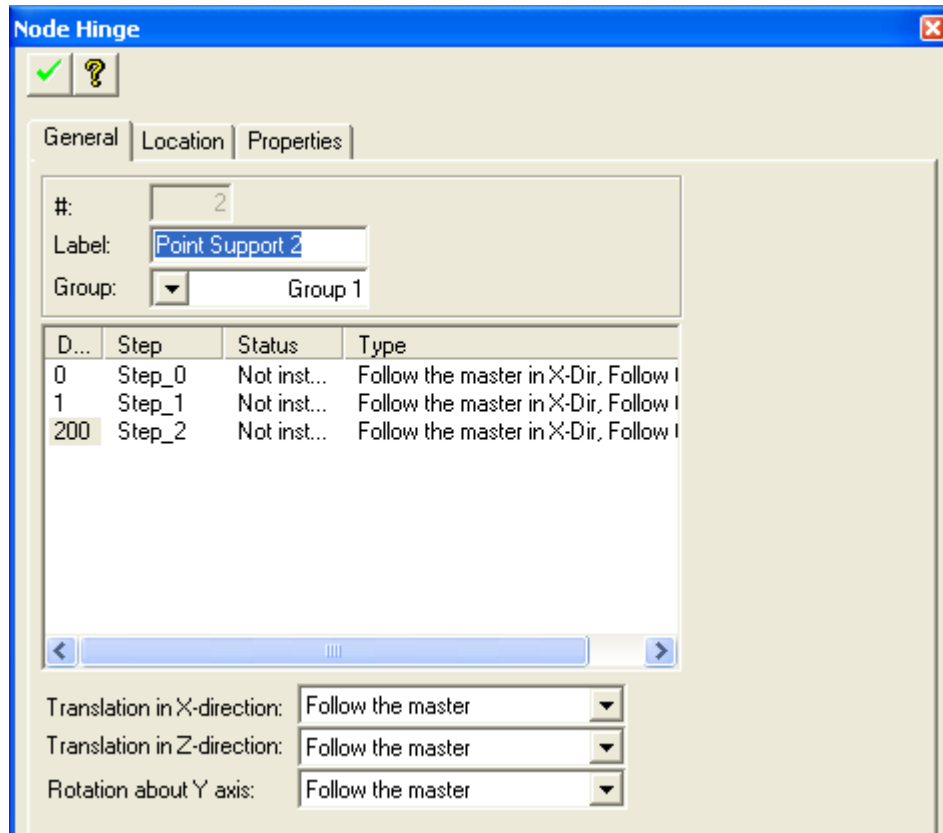

FIGURE 2.14-10 NODE HINGE PROPERTY BOX
- **Create Node Hinge.** This tool is used to specify a node hinge on the structure. To create a node hinge, click on the ■ tool and follow the instructions at the bottom of the screen. To edit a node hinge, open its property box as shown in **Figure 2.14-10**.